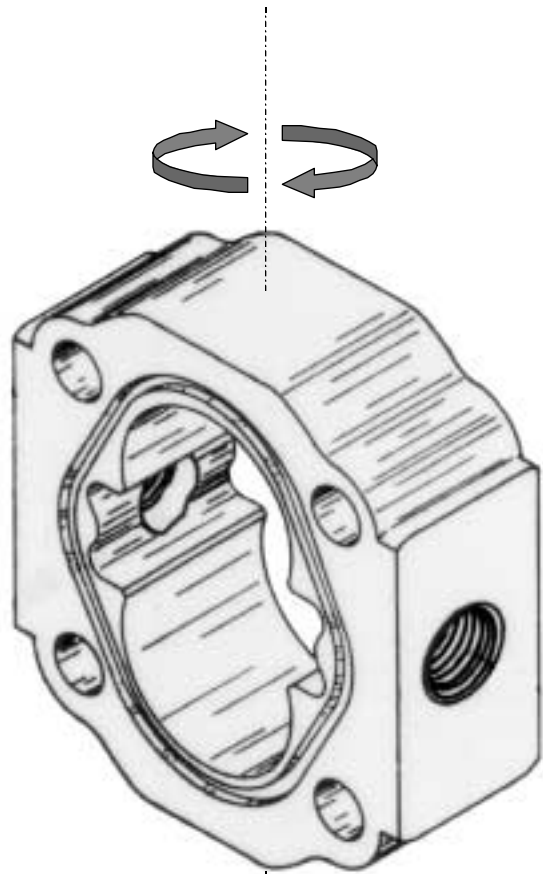

Figure 1
- 5) Flip the gear housing 180° and carefully slide over the gear set. See figure 1. Make sure both section seals stay in the seal grooves during assembly. Keep the drive gear and idler gear in the same gear bore as before.